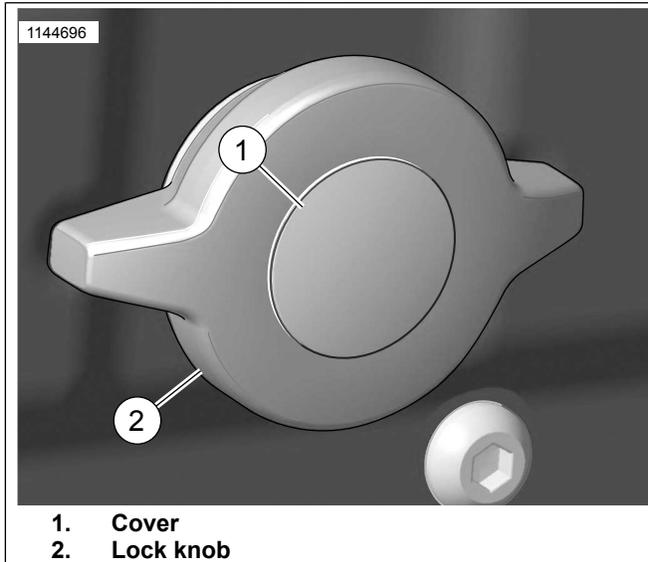

Figure 6. Remove Cover
2. Refer to Figure 6. Remove cover (1) from lock knob (2).
- Refer to Figure 6. Install cover (1).